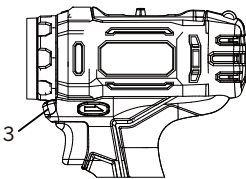

Fig. 8
The LED work light (3) will automatically turn ON when the trigger switch is squeezed (Fig. 8). It will automatically turn OFF when the trigger switch is released.